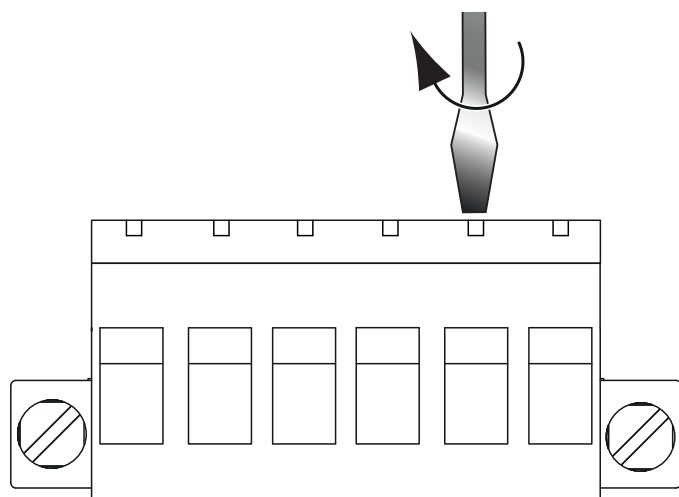

Figure 2: Connecting the 6-pin terminal block
- ☐ Fasten the wires in the terminal block by tightening the terminal screws (see figure 2).